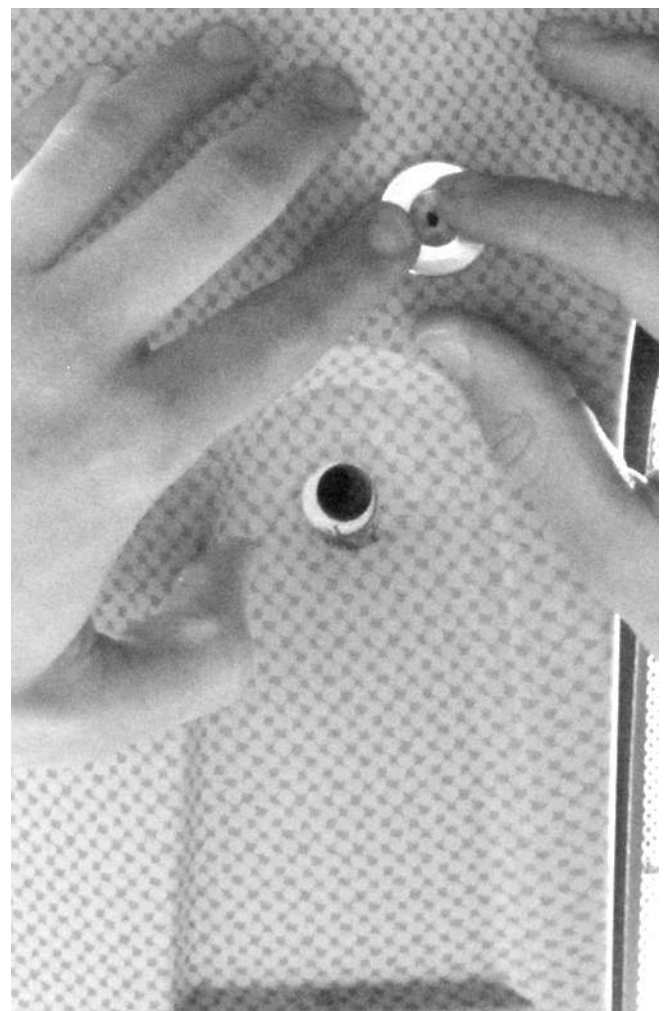

Figure 12-5
4. For each of the three holes, use the mark on the side panel made in Step 11-2 to position the 1" washer and adhere to the side panel. Apply pressure for 20 seconds to ensure the washer sticks (see Figure 12-5).